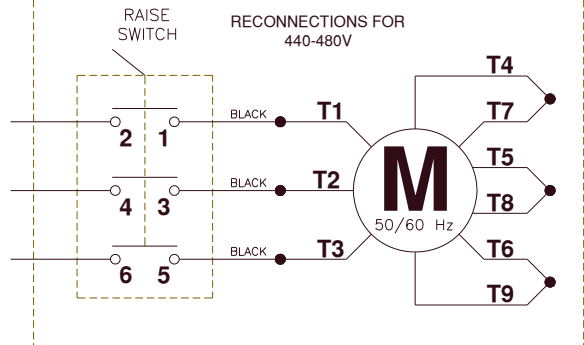

Fig 10 –Electrical Wiring Diagram
- 31) Refer to **Fig 10 Wiring Diagram** for all steps under this heading.